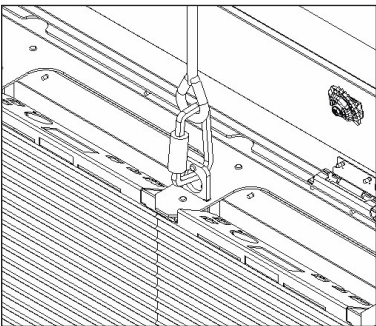
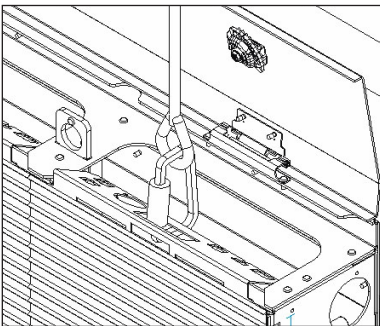

Figure 40: Lift Lug
Figure 41: Module Pan Handle
- 3. Clip one end of the module pan safety lanyard to the closest lift lug in the top perimeter and the other end into the handle of the module pan in need of service. Refer to Figure 40 and Figure 41.